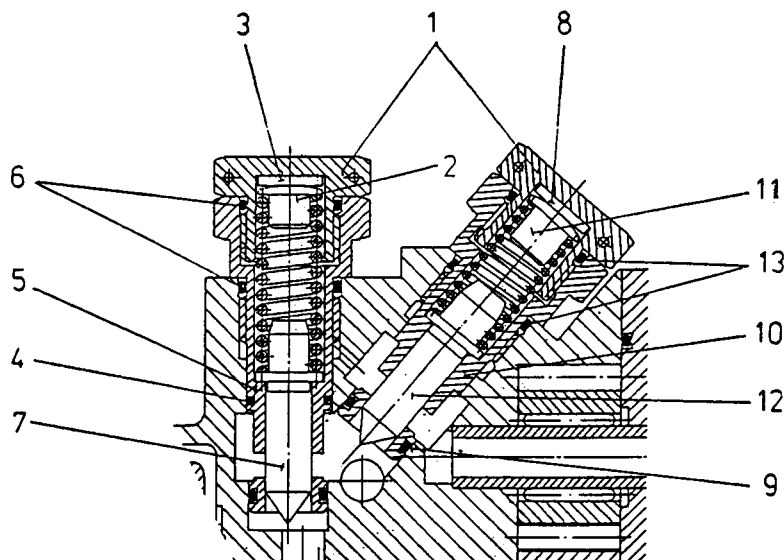

Fig. 11.1 Relief valve adjustment
10.7 Do not turn the relief valve body. Secure relief valve with safety wire. Refer to fig. 11/fig.11.1
13.1 Remove safety wire from all nuts (fig. 11/fig.11.1)
14.2 Hold relief valve body (5,10 in fig. 11/fig. 11.1) with an appropriate wrench. Tight plug. Refer to fig.11/fig. 11.1.
14.3 If the plug (1) was tightened when untightness was found, use new gasket (6, 13 in fig.11/fig.11.1).
15.3 If the plug (1) was tightened when untightness was found, use new gasket (6, 13 in fig.11/fig.11.1).
15.4 Hold the relief valve body (5,10 in fig. 11/fig.11.1) with an appropriate wrench and screw up the plug (1), fig.11/fig.11.1. Do not turn the relief valve body.
Do not lose shim(s) (3,8 in figure 11/fig.11.1).
15.8 Hold the relief valve body (5, 10 in figure 11/fig.11.1) with an appropriate wrench and tight the plug with shims and gasket. Do not turn the relief valve body.